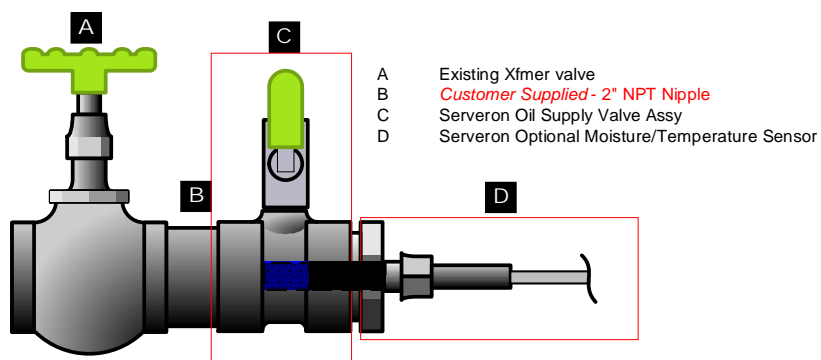

Figure 12 Moisture Probe Installation - Vaisala
1. After installing the male nipple and the Oil Supply Assy on the transformer valve in the orientation shown below (**fig 12**), install the provided 2" NPT x 1/2" NPT reducing bushing packaged with the moisture kit, using Teflon® tape and pipe-thread sealant. If the oil supply tee is not 2" NPT, then a suitable reducing bushing must be supplied to accommodate the 1/2" NPT moisture probe fitting.
3. Set the proper depth of the probe by sliding it through its fitting so that the perforated end aligns with the vertical port of the tee fitting (**fig 12**). Once adjusted, insert into the end of the stainless fitting and secure with the nut.
1. After installing the male nipple and the Oil Supply Assy on the transformer valve in the orientation shown (fig 12), install the provided 2" NPT x 1/2" NPT reducing bushing packaged with the moisture kit, using Teflon® tape and pipe-thread sealant. If the oil supply tee is not 2" NPT, then a suitable reducing bushing must be supplied to accommodate the 1/2" NPT moisture probe threads.